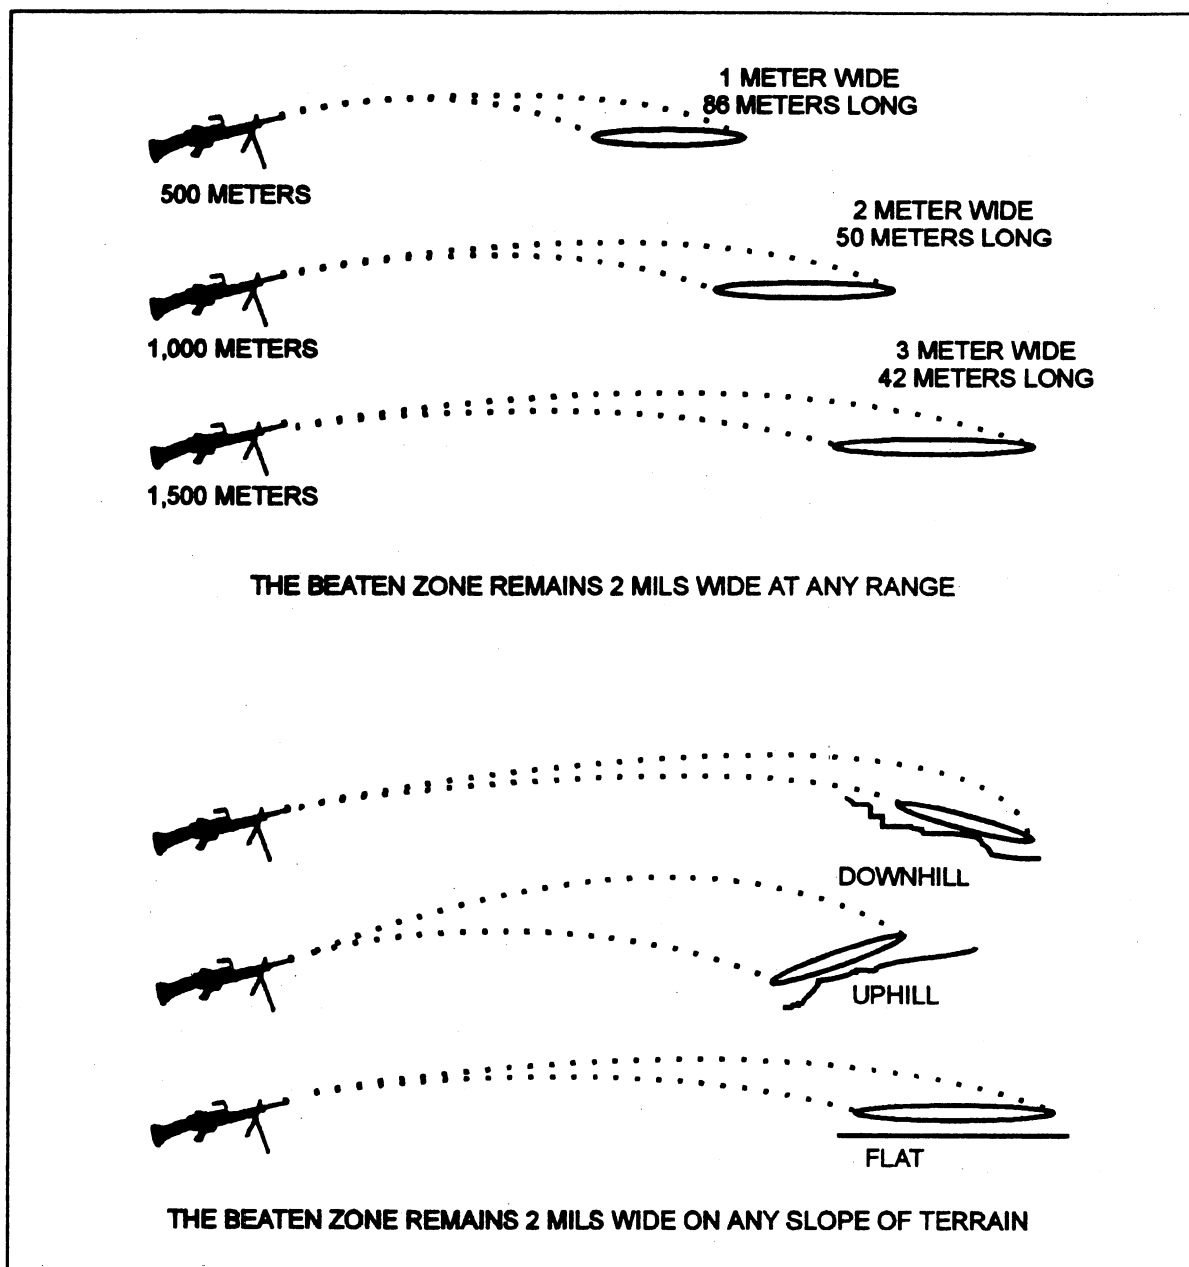

Fig 3-3. Beaten zones vary with range and terrain.
f. **Beaten zone.** As the bullets strike the ground, they form an elliptical pattern. This pattern is called the beaten zone. The center of the beaten zone is called the center of impact. It is not important for you to know the exact lengths and widths of beaten zones. However, you should know that as the range to the target increases, the beaten zone becomes shorter and wider. Additionally, you should know that the slope of the terrain will affect the length of the beaten zone, but will not affect its width. The average width of the beaten zone formed by a burst from your M240G machinegun is approximately 2 mils wide at all ranges. Since one mil is one meter wide at a distance of 1000 meters, you can easily calculate the width of the beaten zone by multiplying 2 mils by the range, expressed in thousandths of meters (see fig 3-3).